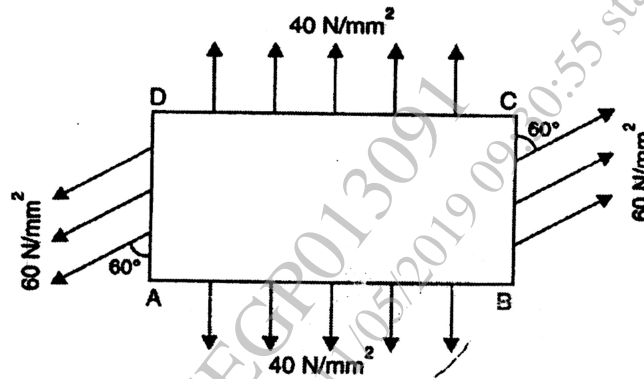

Fig8
8. (a) A point in strained material is subjected to stresses as shown in fig.8. Find principal stresses, maximum shear stress and positions of principal plane [7M]